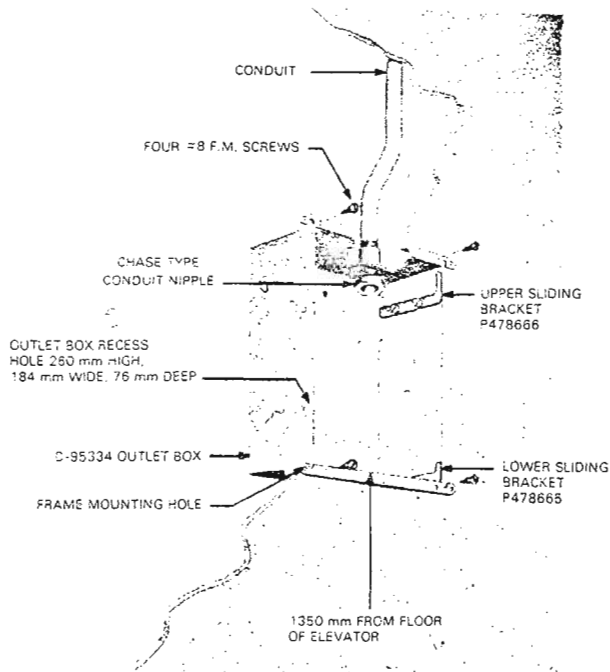

Fig. 3 — Mounting of Outlet Box
3.05 The standard outlet box D-95334 should be mounted in a recess 184 mm wide, 260 mm high, and 76 mm deep as illustrated. (Fig. 3).